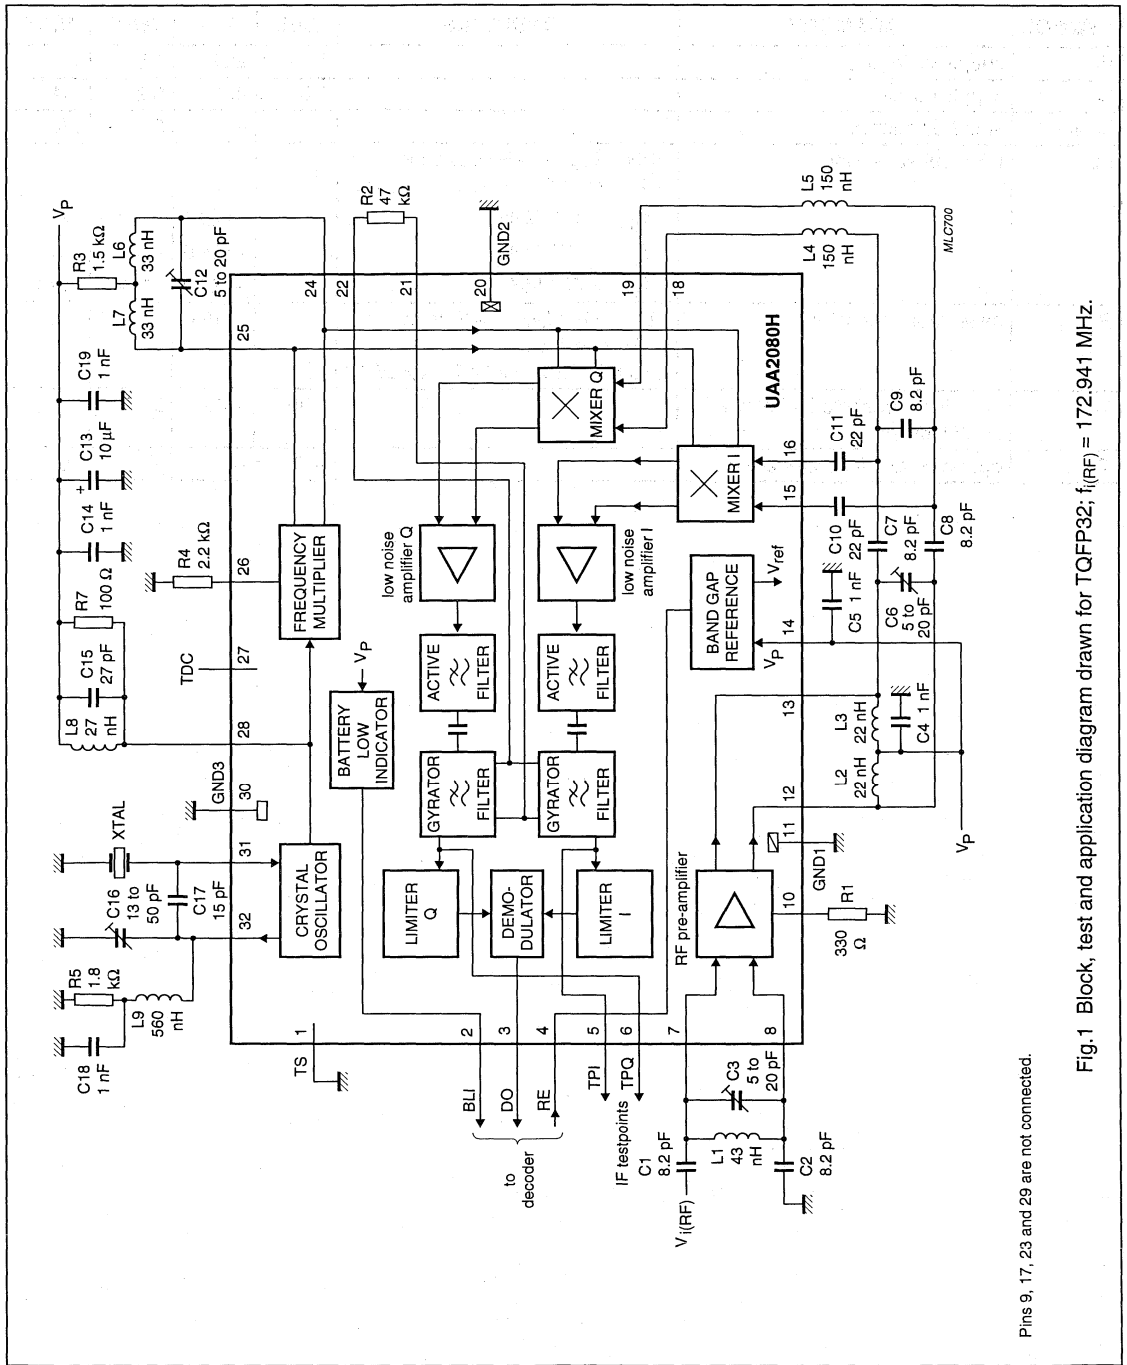

Fig. 1 Block, test and application diagram drawn for TQFP32;  $f_{i(RF)} = 172.941$  MHz.
**Table 1** Tolerances of components shown in Figs 1 and 2 (notes 1 and 2)